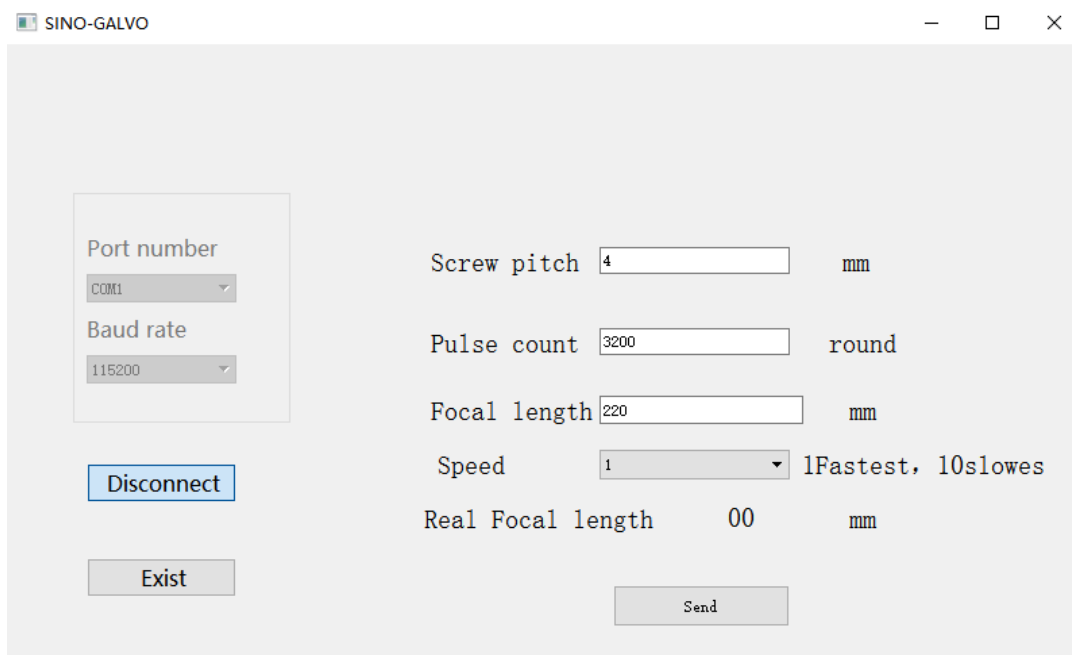

Figure 4-2
- ③ Set Baud Rate 115200, then click the "Open Connection" button. Set Screw Pitch (the screw pitch of the practical screw rod). Motor driver subdivision (according to the physical setting), focal length and speed (divided into 10 gears, 1 fastest, 10 slowest, 1-10 decreasing speed), It is ok if the first Focal Length setting is not accurate. Setting window is in the figure 4-2.